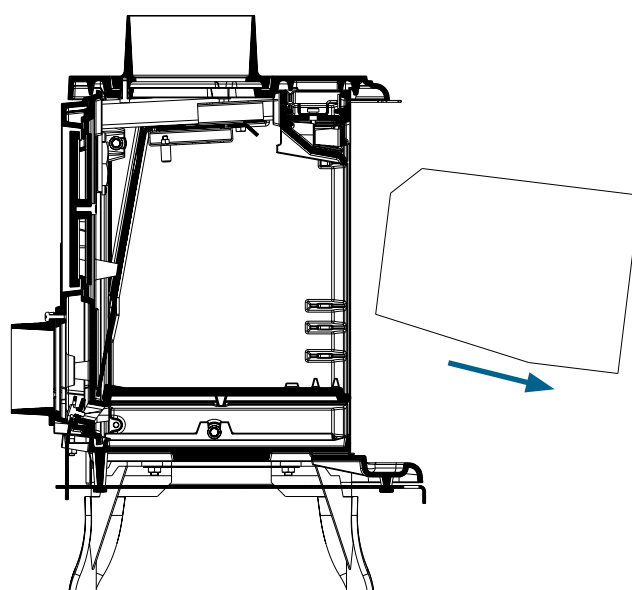

Figure 5b
- Remove the firebrick (fig. 5b)